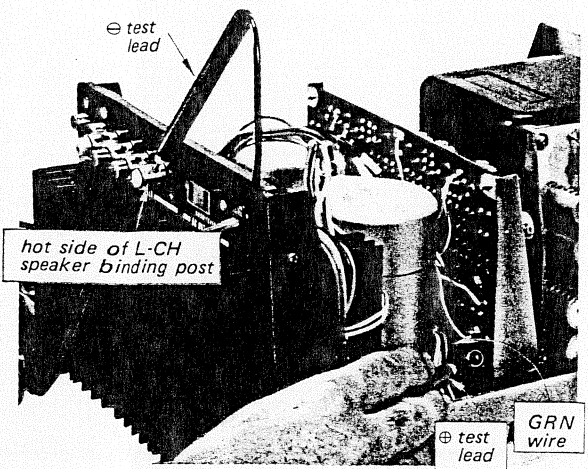
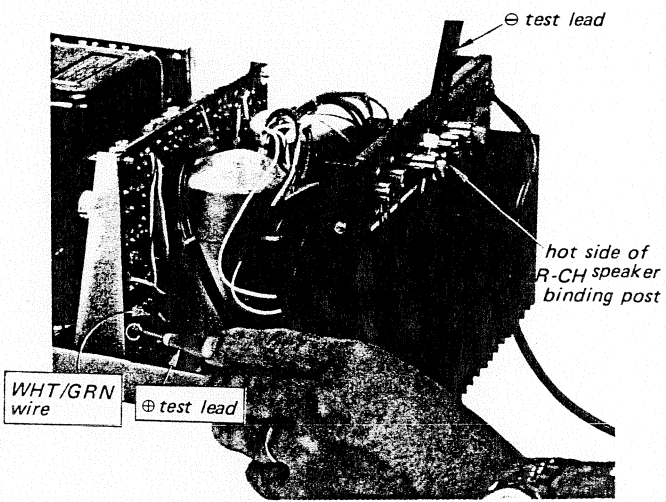

Fig. 3-1 DC millivoltmeter connection point (L-CH check)
Fig. 3-2 DC millivoltmeter connection point (R-CH check)
To avoid accidental power transistor damage, increase the ac line voltage gradually, using a variable transformer, while measuring the voltage across emitter resistors (R138 or R238) of power transistors alternately as shown in Fig. 3-1 or Fig. 3-2. Check to see that the reading does not exceed 25 mV. If it does, turn off the power as soon as possible, then check and repair the trouble in the power amplifier board.
- 2. Connect the dc millivoltmeter to emitter resistor R138 of power transistor Q110 and the hot side of the speaker binding post L-CH as shown in Fig. 3-1.